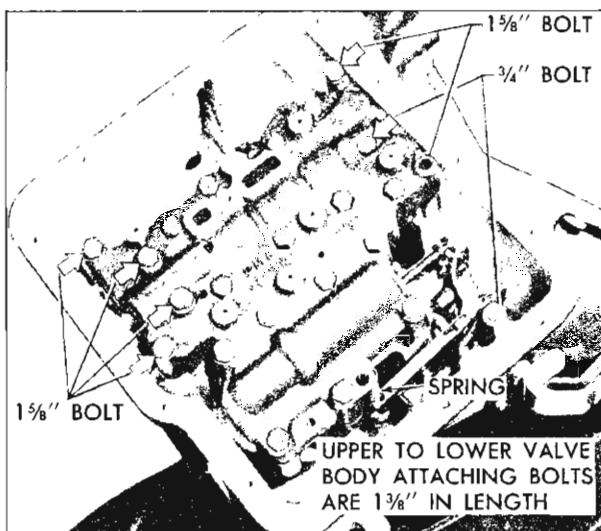

Fig. 16PG—Valve Body Removal
25. Remove the remaining valve body-to-transmission case attaching bolts (indicated by arrows in Figure 16PG) and carefully lift out the valve body and gasket, disengaging the servo apply tube